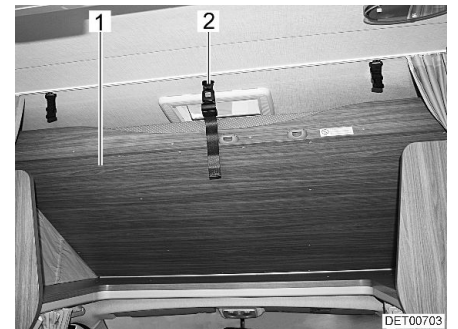

Fig. 48 Overcab bed in driving position
- Swivel the overcab bed (Fig. 48,1) upwards and let the retaining strap (Fig. 48,2) engage in the holder on the ceiling.